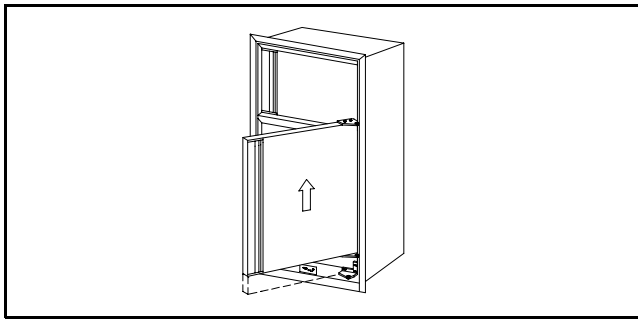

Figure 9
4. Remove the lower door by opening it slightly and pulling the top of the door away from the refrigerator. Allow enough room so the door can be lifted up and off of the bottom hinge pin shoulder. (See Figure 9) Be sure to save the spacer used in the middle hinge bracket, for reassembly later. (See Figures 13A, 13B, and 13C)